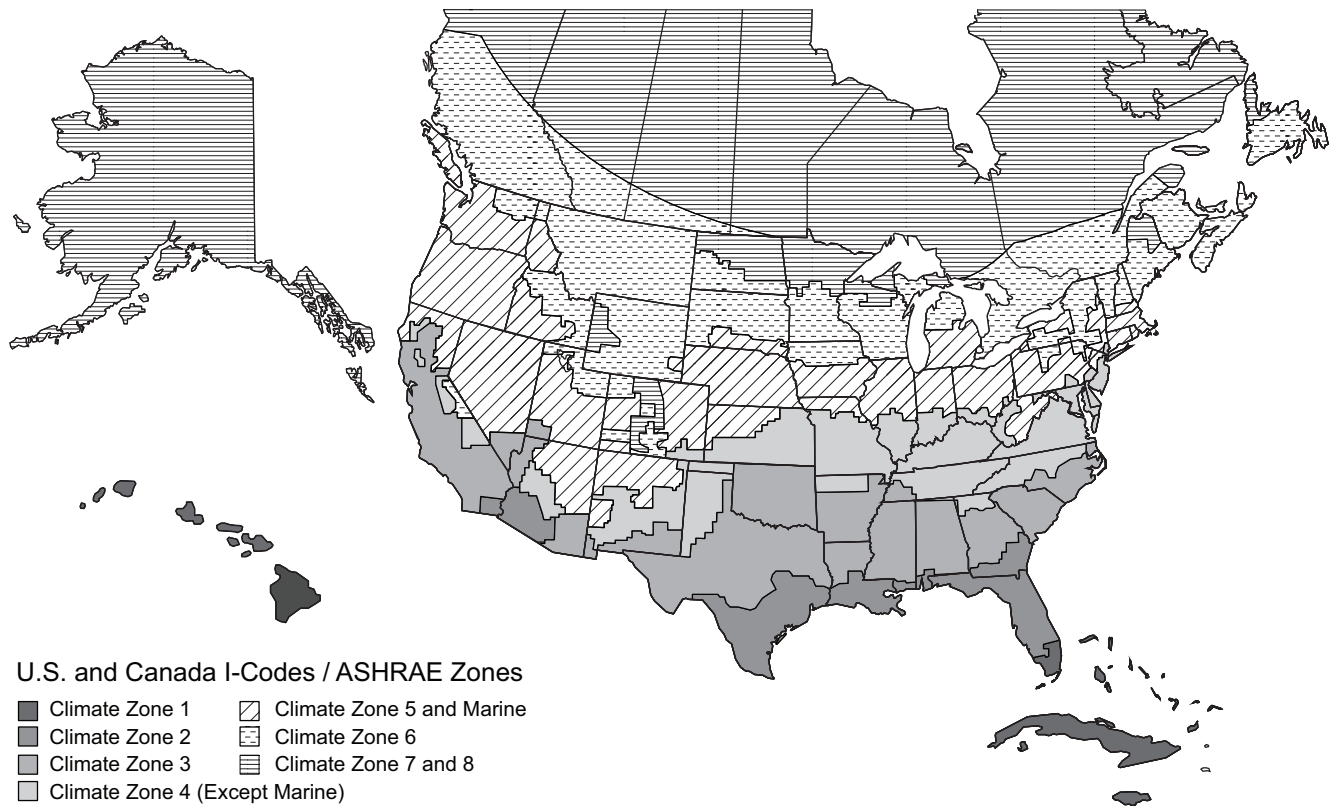

Fig. 69 — U.S. and Canada Climate Zones
- a. See Fig. 69 for map of U.S. and Canada climate zones.